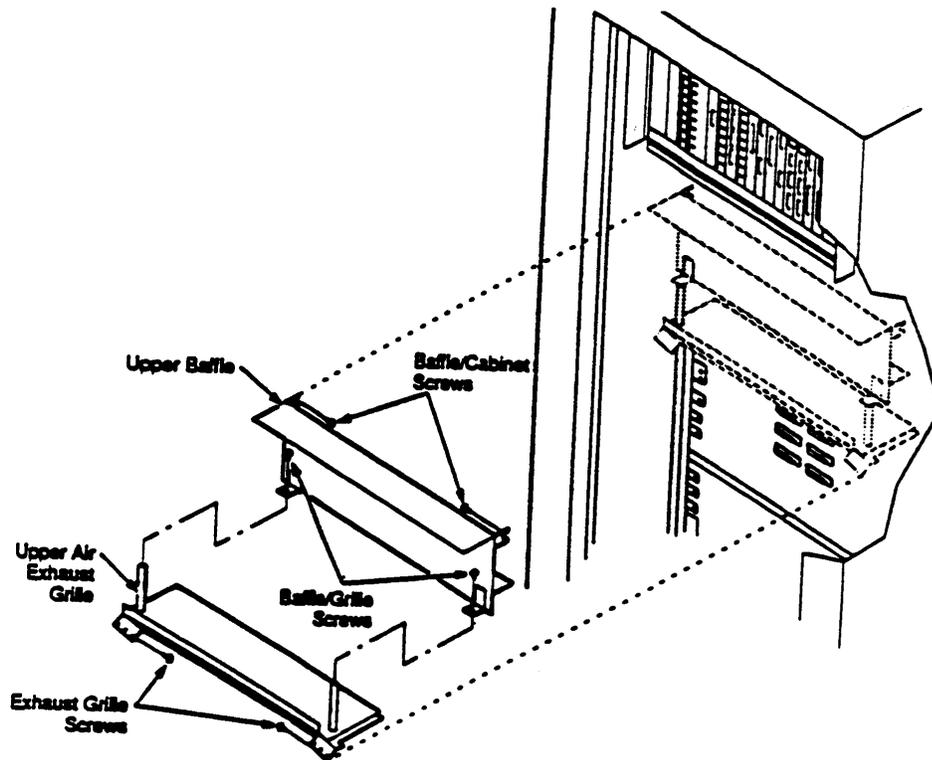
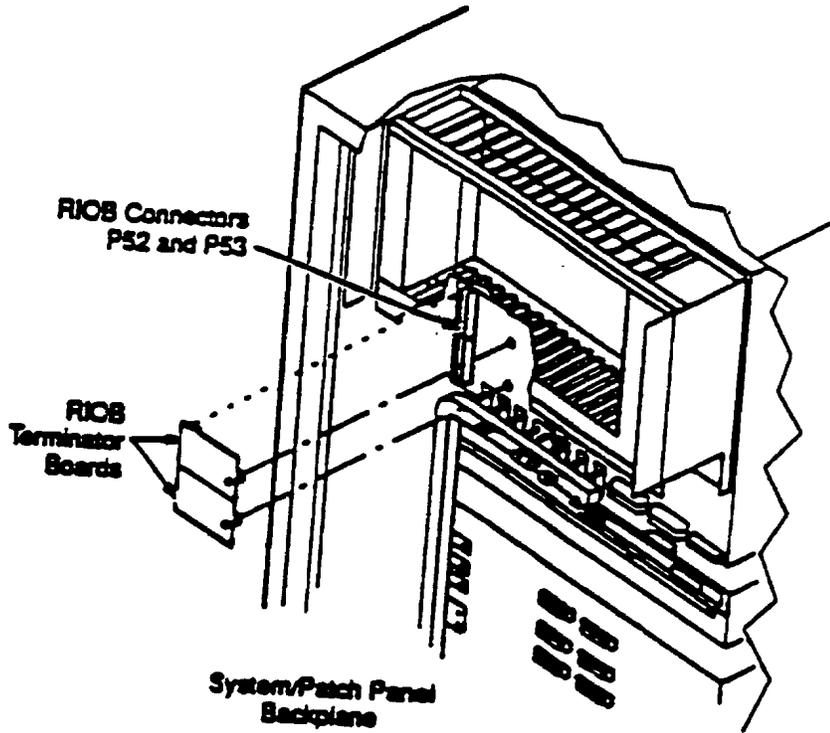

Figure 2. Upper Baffle and Air Exhaust Grill Removal/Restoral
Figure 3. RIOB Terminator Boards
18. Remove the (2) baffle/grille screws that hold the upper baffle to the upper air exhaust grille. See (Figure 2).
19. Loosen--But do not remove--The (2) baffle/cabinet screws that hold each side of the upper baffle to the cabinet, and remove the upper baffle.
20. Locate the (2) RIOB terminator boards that are mounted on the bottom left of the system/patch panel backplane. See (Figure 3).
23. Plug each new RIOB terminator board in place on its system/patch panel backplane connector. Press the board at the connector end to seat it. See (Figure 3).
24. Set the upper baffle in place, and tighten the (2) baffle/cabinet screws that hold each side of the upper baffle to the cabinet.
25. Install and tighten the (2) baffle/grille screws that hold the upper baffle to the upper air exhaust grille. See (Figure 2).